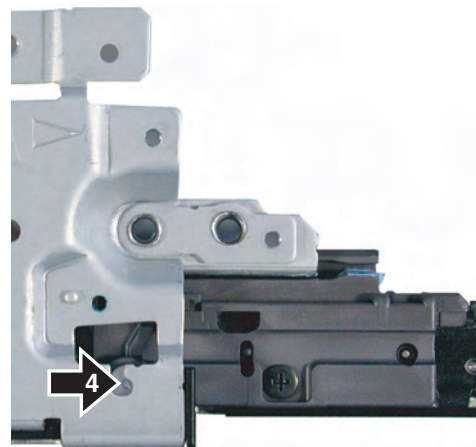

Fig.7
- 4** Pull out the Display Assy to the proper position (indicated on Fig. 7). And then, push the white knob (indicated on the figure) and draw out the Display Assy.